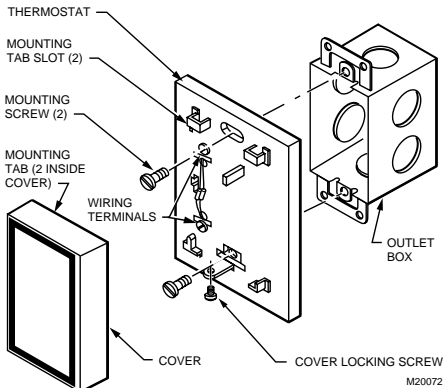

Fig. 2. Mounting the T7047.
7. Fasten the T7047 on the wall or outlet box with screws through the mounting holes in the device. (See Fig. 2.)